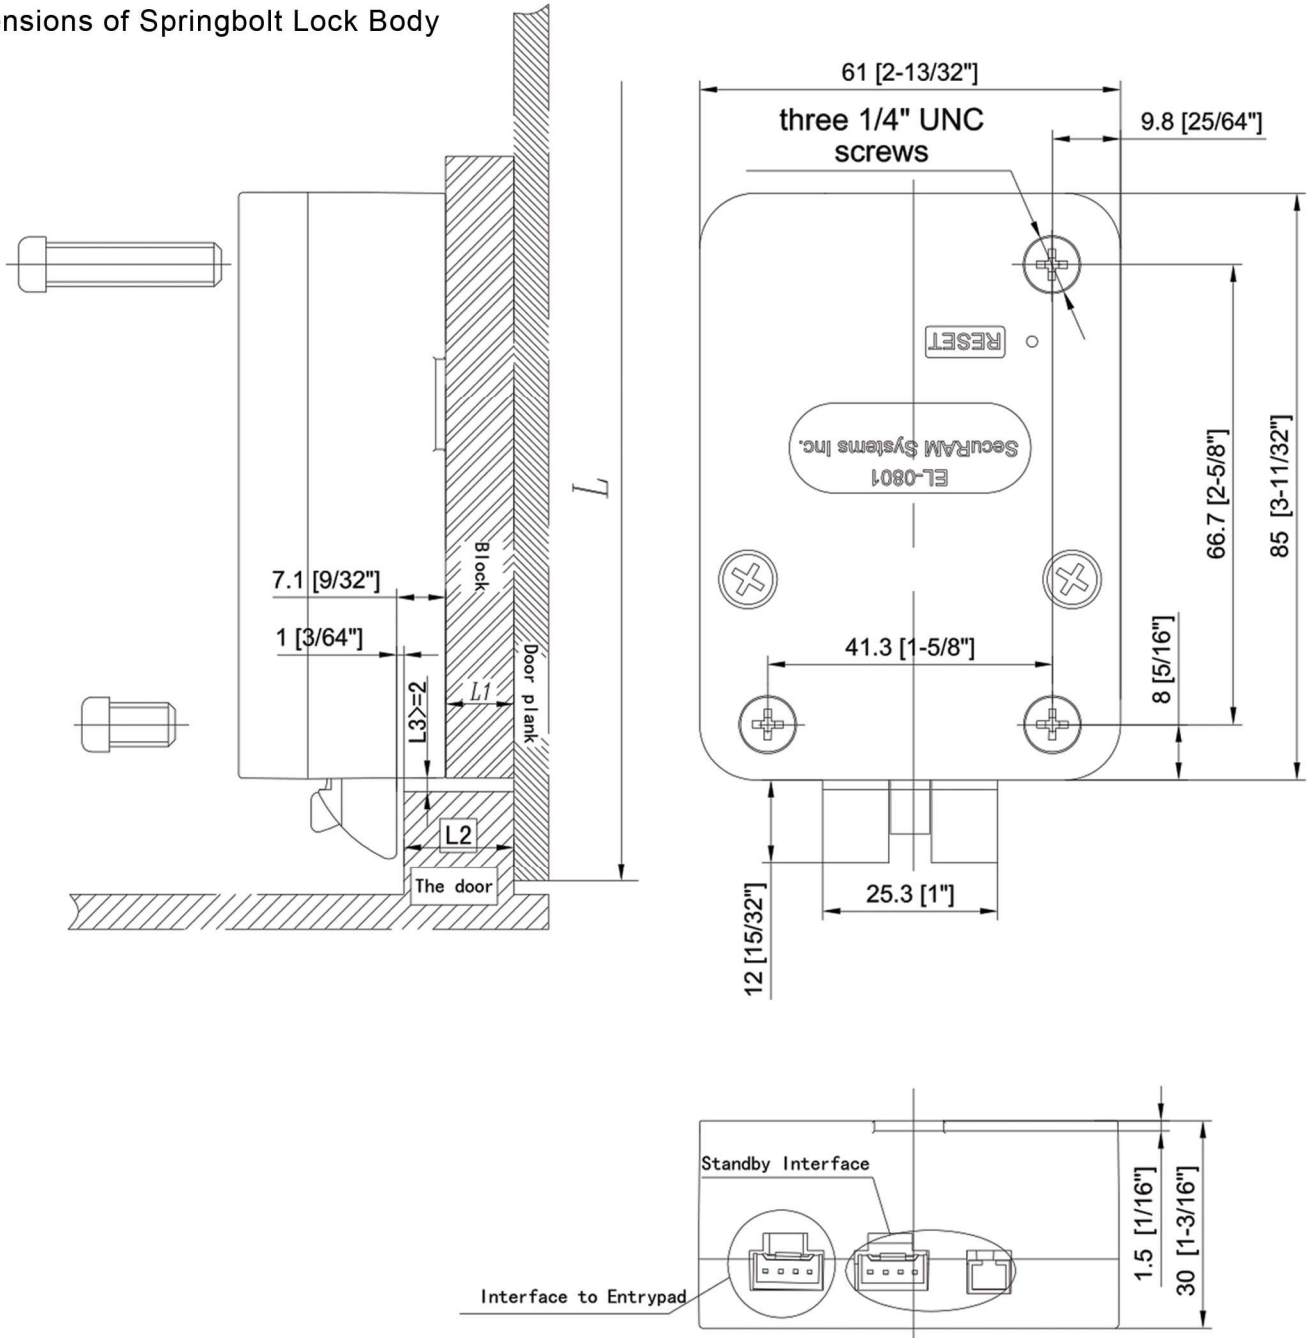
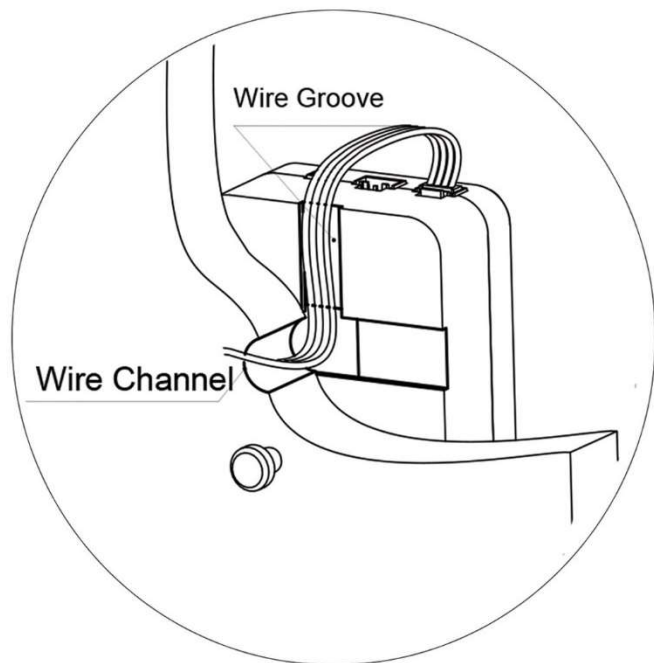

Fig. 9
Fig. 10
5. A minimum of 1-2mm of space is required between the flat end of the bolt and safe's blocking bar or cam plate when the safe's boltwork is in fully locked position. This is because of the depression on the bolt may not allow it to be retracted and may lead to inconsistent lock operations. (Fig. 9)
7. Make sure the springbolt lock body is fully operational before closing the safe door for the first time. (Fig. 10)
2. A heel block is used here as an example to make the springbolt reach the required height, you also en-groove the door frame accordingly. (Fig. 9)
4. Use the three mounting screws provided by the factory to screw down the springbolt to the mounting plate. Make sure that the cable runs in the groove (Fig. 10). Note: The length of the mounting plate here is equal or greater than 450 millimeter ($L=450$ mm), if it is less than 450 millimeter, the distance between the lock and the door frame ($L\#$) can be appropriately increased, and $L1$ and $L2$ can be decreased. $L2-L1 \geq 6.1$ mm (Fig. 9)
5. The length of the springbolt extension is 12 millimeters. It is important to leave enough space on the door frame to receive the lock bolt. (Fig. 9)
6. It is also important to make sure there is at least a distance of 2 millimeters between the door frame and the lock when the lock is in a closed position (see L3). (Fig. 9)
7. To make sure there is a distance of 1 millimeter between the door frame and the flat end of lock bolt when the lock is in a closed position. (Fig. 9)
1. Dimensions of the bolt head: 12mm (Fig. 9)